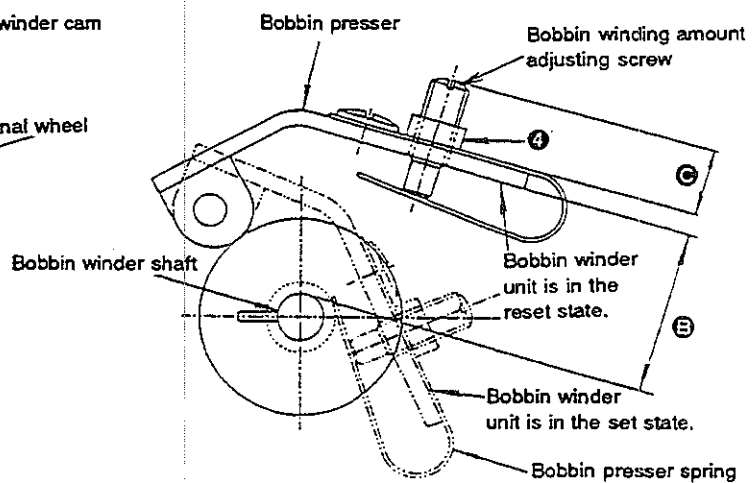

Fig. 4
<p>1) Adjusting the bobbin winder friction wheel</p> <ol style="list-style-type: none"> 1. Loosen the screw in the reverse feed cylinder. 2. Remove the reverse feed cylinder. 3. Remove the side plate. 4. Set the bobbin winder in its released state. (Fig. 4) 5. Loosen screws ❶ in the bobbin winder friction wheel. (Fig. 1) 6. Adjust the clearance ❷ between the bobbin winder friction wheel and the friction ring to 0.3 to 0.6 mm (0.012" to 0.024"). (Fig. 1) 7. Tighten screw No. 1 ❶ in the friction wheel. Then tighten the screw No. 2. (Fig. 1) 8. Set the bobbin winder in the operating position, and check that the bobbin winder shaft rotates normally. 9. Attach the side plate in place. 	<p>These steps of procedure are not necessary for the sewing machine that is not equipped with an auto-lifter.</p> <p>8' If the bobbin winder fails to rotate normally, finely adjust the clearance provided between the bobbin winder friction wheel and the friction ring properly.</p> <p>9' If your sewing machine is equipped with an auto-lifter, attach the side plate in place while referring to "8" of "Needle entry in the needle slot of the feed dog in the feeding direction" on page 9.</p>
<p>2) Adjusting the bobbin winding amount</p> <ol style="list-style-type: none"> 1. Loosen screw ❷ in the side plate on the front of the machine head. (Fig. 2) 2. Remove the side plate from the front of the machine head. (Fig. 2) 3. Loosen screw ❸ in the bobbin winder cam. (Fig. 3) 4. Adjust distance ❹ from the bobbin winder shaft to the bobbin presser to 24 ± 1 mm (0.945 ± 0.039"). (Fig. 4) 5. Loosen screw ❸ in the bobbin winder cam. (Fig. 3) 6. Attach the side plate on the front of the machine head. (Fig. 2) 7. Adjust distance ❺ from the top surface of the bobbin presser plate to the bobbin winding amount adjusting screw to 8.5 ± 1 mm (0.335 ± 0.039") by turning the bobbin winding amount adjusting screw. (Fig. 4) 8. Make the sewing machine perform bobbin winding. 9. Securely tighten hexagon nut ❻. (Fig. 4) 	<p>8' Adjust so that the bobbin is wound with thread approximately up to 80% of its capacity (diameter of the bobbin wound with thread: 23.3 mm (0.917")) by turning the bobbin winding amount adjusting screw.</p>
(9) Thread trimmer